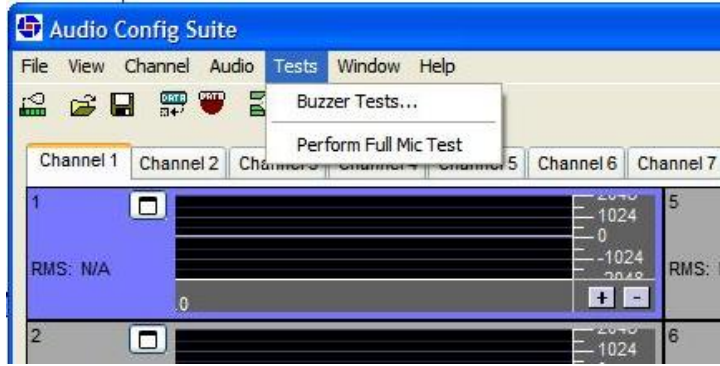

Figure 8-25 - Select Buzzer Tests
1. Under the **Tests** menu, select **Buzzer Tests** as shown in Figure 8-25 – Select Buzzer Tests;